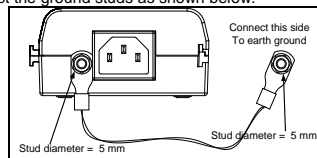

Figure 2: Stud Connection to Ground
3. Connect the chassis screw connection to the main chassis infrastructure as illustrated on Figure 2.